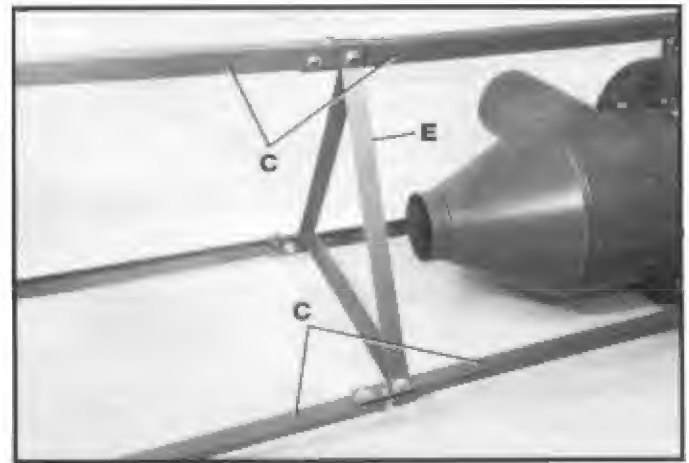

Fig. 13
2. Attach the remaining brace (E) Fig. 13, to the other two leg assemblies (C) in the same manner.